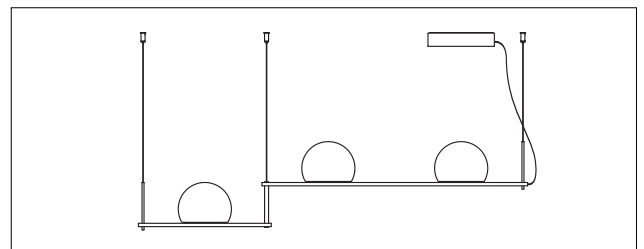

Figure 1A
- To be mounted facing up (figure 1A) go directly to step 5 (figure 5)